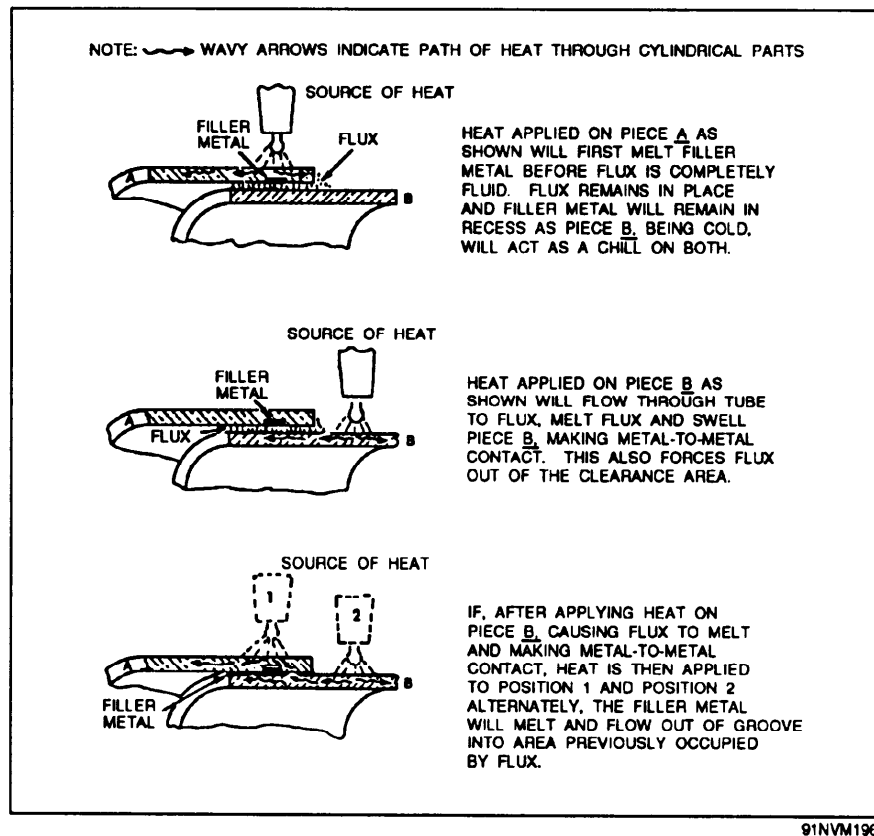

Figure 9-6.—Flow of flux and filler metal.
4. The filler metal and the flux used in silver brazing cannot occupy the same space at the same time. Therefore, a clearance must be provided in the setup of the joint so that the filler metal can flow in and the flux can flow out. Heat should be applied in the manner shown in figure 9-6 so that the flux will flow out when the filler metal reaches the bonding temperature.